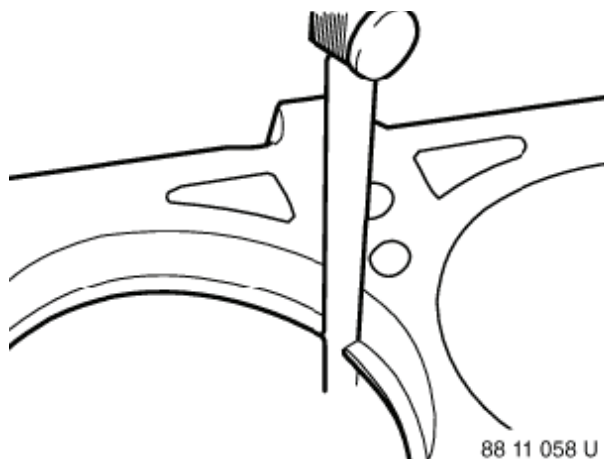

Figure 5-49
1. Insert new piston rings, one at a time, into the cylinder. Use a piston with the piston rings removed to slide the ring squarely into the cylinder bore. Measure the end gap of each piston ring (**Figure 5-49**).